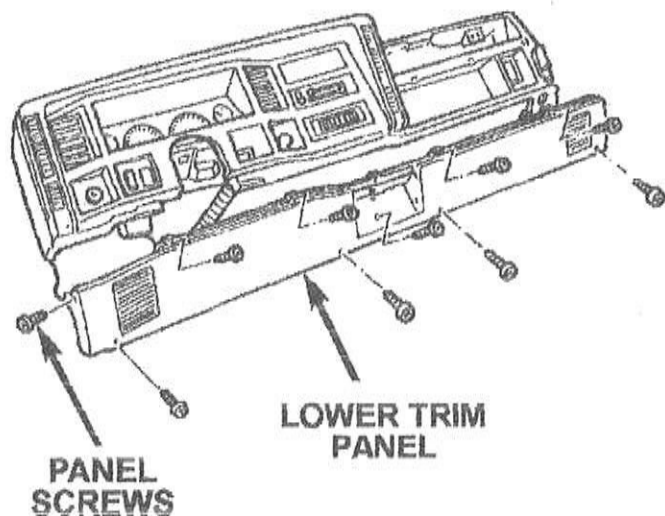

Figure 12
- Remove the instrument panel lower trim panel (Figure 12).
44. Install the instrument panel lower trim panel (Figure 12).